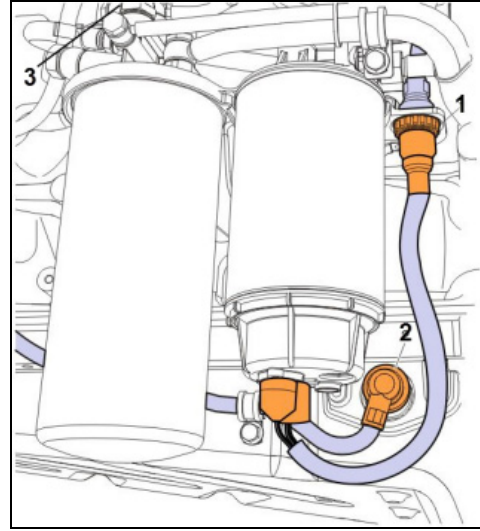

FIGURE 11
13. Disconnect the harness from the engine oil level/temperature sensor and water separator connector on the cold side of the engine (fig.11). Remove all nylon cable ties and P-clamps.
15. Disconnect the ground connection from the block, fuel pressure sensor connection (fig.11, item 3), and the harness ground wire ring terminal from the block behind the alternator. Remove all nylon cable ties and P-clamps.